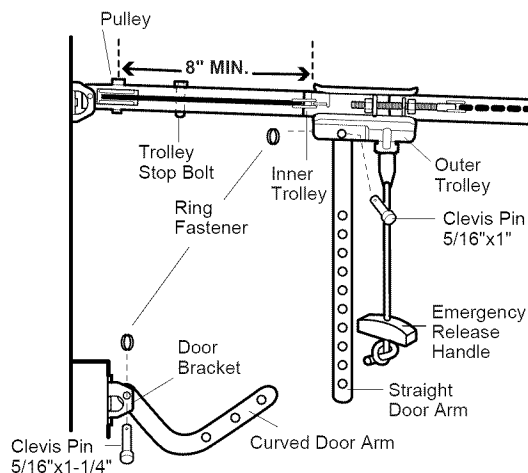

Figure 1
- Make sure garage door is fully closed. Pull the emergency release handle to disconnect the outer trolley from the inner trolley. Slide the outer trolley back (away from the pulley) for 8" minimum as shown in Figures 1, 2 and 3.
- **Figure 1:**